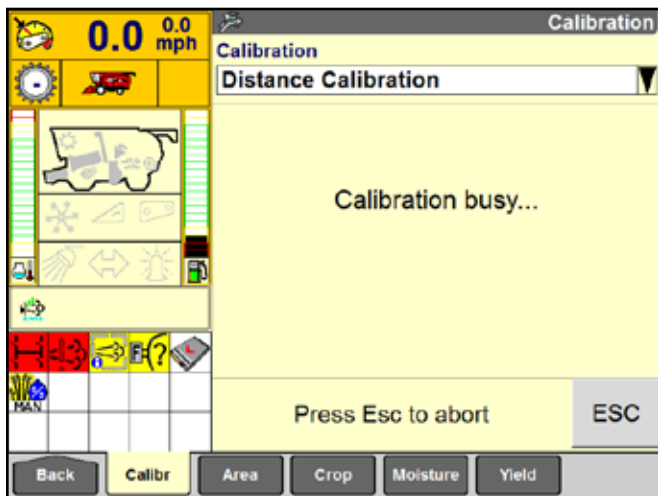

Figure 17.3
- Displays screens for the actual distance value input and updating the calibration (see figure 17.3)